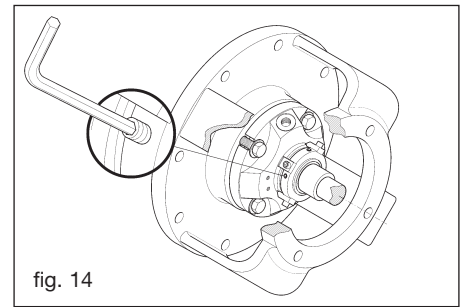

fig. 14
- Loosen the grub screws of the shaft sleeve (fig. 14)
- Tighten the grub screws as far as they will go (fig. 14)